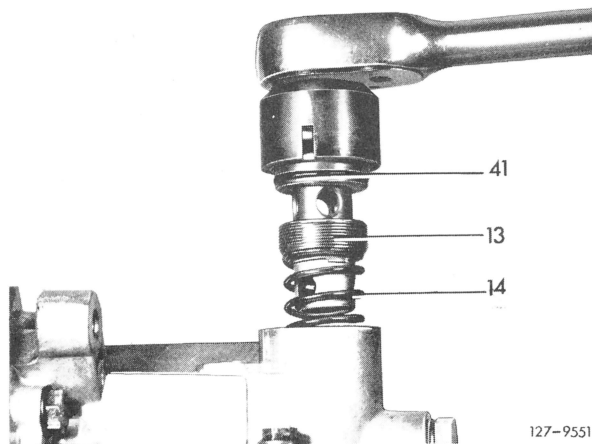

Fig. 16
**21** Unscrew plug for secondary pump (13) with screw driver and remove compression spring (14) (Fig. 16).